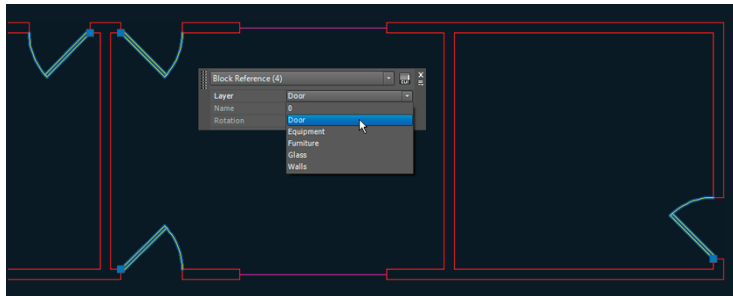

FIGURE 7.17 Assigning the Door layer to the door block references
1. Click on each of the four door block references to select them. Type **qp** (for Quick Properties), and press Enter. Select Door from the Layer drop-down menu (see Figure 7.17). Notice that the doors are still yellow, even though the Door layer is green. Click the Close box in the upper-right corner to close the Quick Properties palette, and press Esc to deselect.